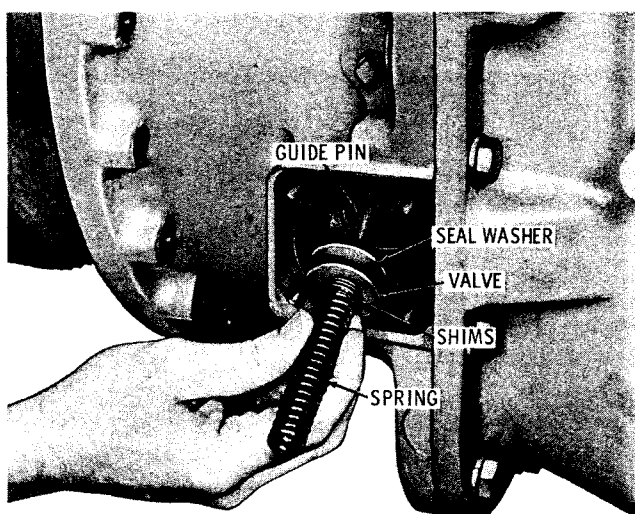

Fig. 5-3. Removing lubrication regulator valve components
(3) Remove the valve components shown in figure 5-3. Separate the components, but tie the shims together in a pack to ensure that the same shim thickness will be used in reassembly of the transmission.